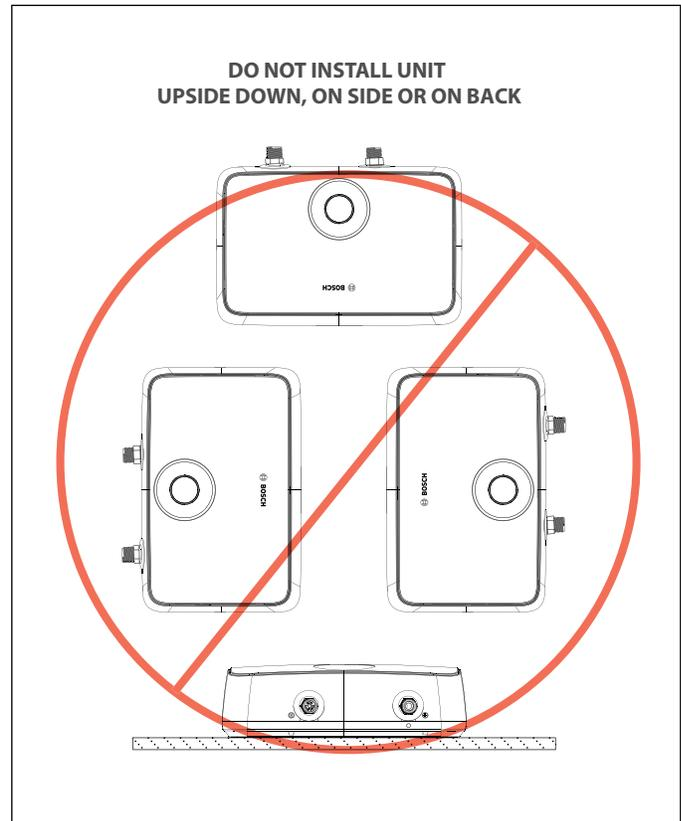

Figure 8
- ▶ It is highly recommended by the manufacturer to install water leak detection devices and automatic shutoff valves in any water heater installation where a leakage of water could result in property damages See Figure 8.
1. Install unions on the hot and cold water connections to easily disconnect the water heater for servicing. See Figure 8.